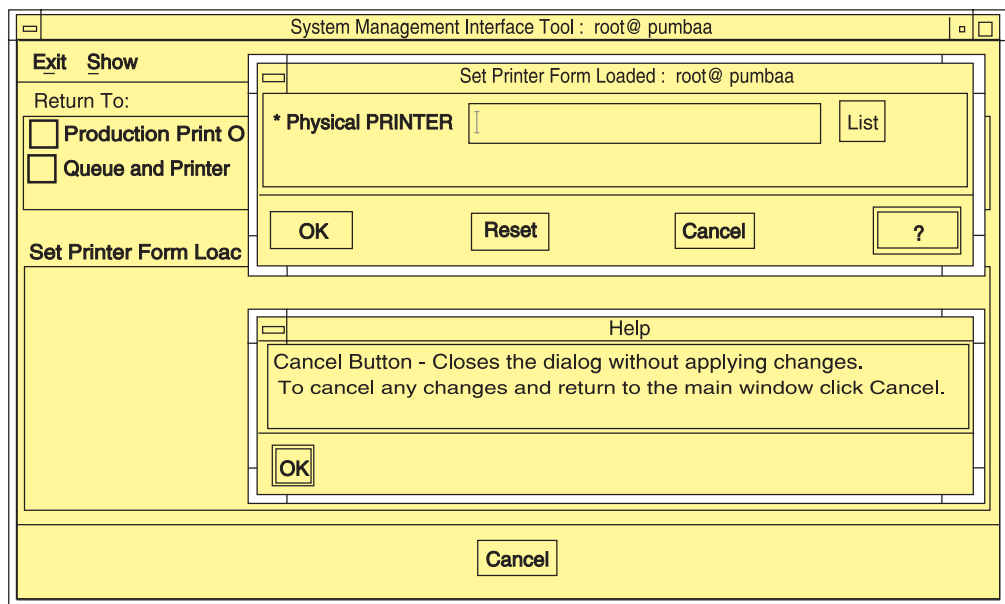

Figure 60. Help for SMIT Window Fields and Buttons
1. Select the button labeled with a question mark at the bottom right of the window. A **Help** window displays beneath the SMIT window. Figure 60 shows the results of selecting the question mark button.